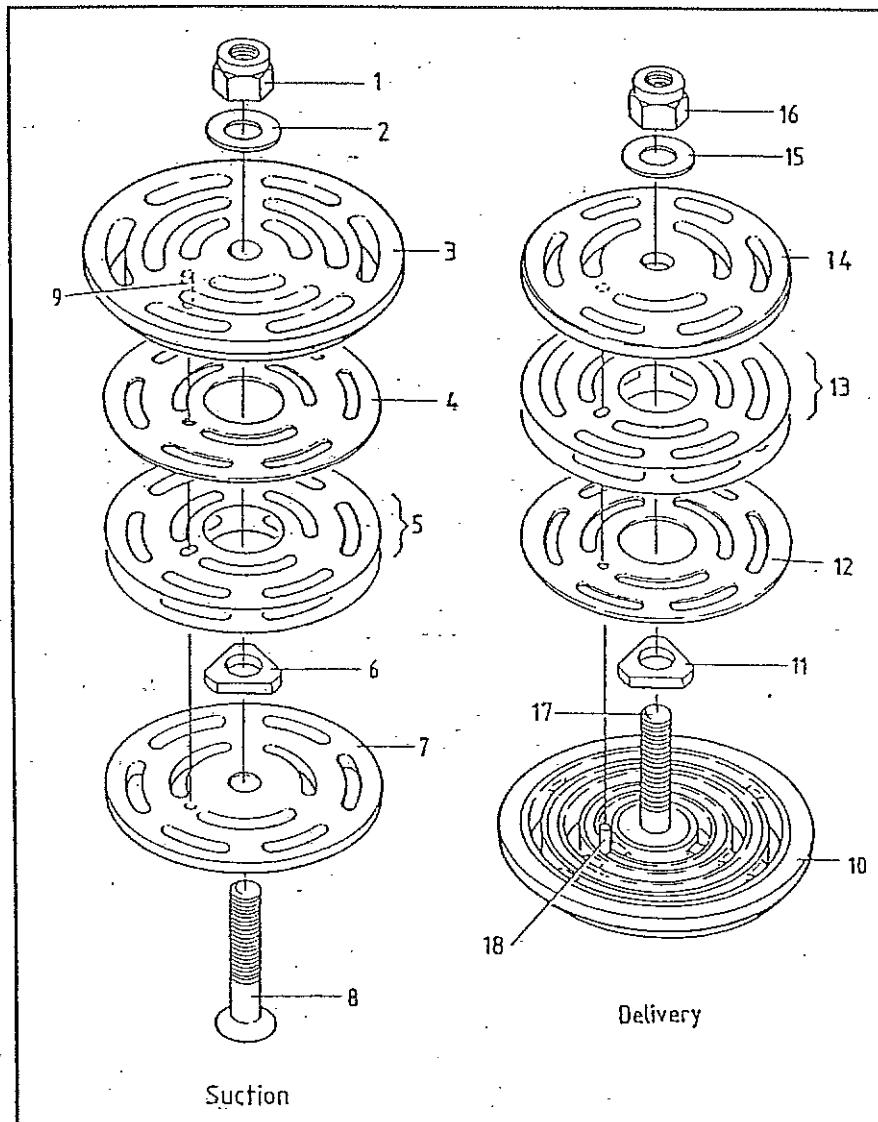

FIGURE 13-8 FIRST STAGE VALVES
13.3.3.3 FIRST STAGE DELIVERY VALVE OVERHAUL (FIGURE 13-8)
(19) with the hole in plate (12) NOT with the slots. Fit spacer (11). Arrange springs (13) as shown in Figure 13-8 and place on the valve plate, engaging with the locating pin as for the plate. Centralize the plate and springs. Taking extreme care not to disturb the springs, fit guard (14), engaging locating pin with corresponding hole in the base plate. Holding the components firmly together, fit nut (16) and washer (15). Tighten nut.
FIRST STAGE SUCTION VALVE OVERHAUL (FIGURE 13-8)
Place valve seat (3) on a tubular support. (Note that this is not part of the valve assembly) with peg (9) uppermost. Fit spacer (6) and valve plate (4) engaging peg (9) with the hole in plate. NOT with the slots. Arrange springs (5) as shown in Figure 13-8 place on the valve plate. Centralize plates and springs. Take extreme care not to disturb hole in the guard. Holding the valve components firmly together, pass stud (8) through the assembly, lift from the support and fit nut (1) and washer (2). Tighten nut.